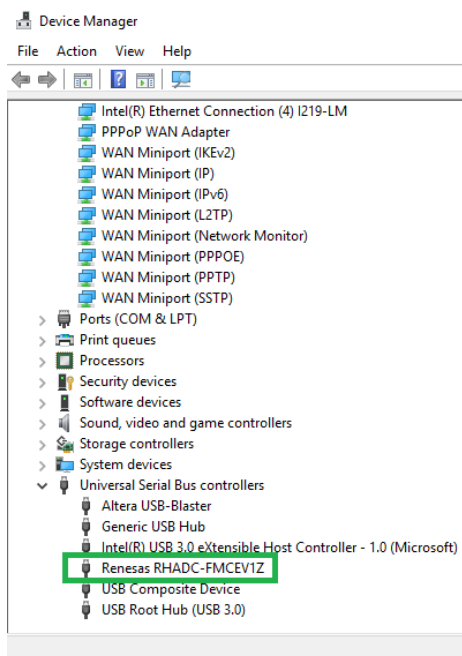

Figure 4. USB Device Driver in Device Manager
The digitized data from the ADC is passed to the RHADC-FMCEV1Z using the VITA 57.1 FMC mezzanine connector. The iRADAnalyzer application software controls the capture of data and provides FFT performance data of the ADC. Figure 4 shows the GUI interface of the application software.
2. Connect a USB cable between the PC and the RHADC-FMCEV1Z. The board should be listed in the device manager on the PC as Renesas RHADC-FMCEV1Z under Universal Serial Bus Controllers (Figure 4).